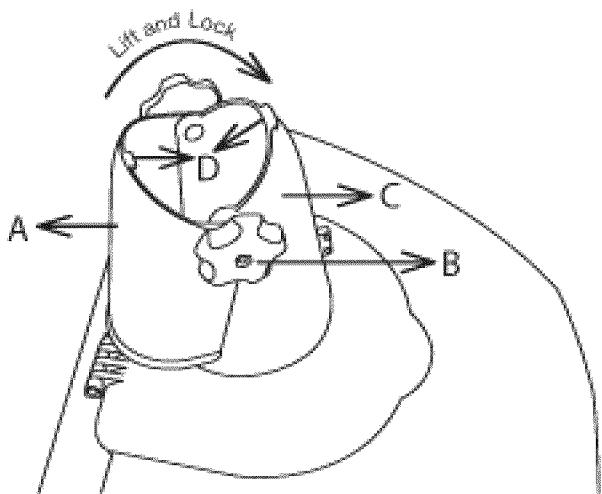

Figure 10
- Lift the chute deflector so that it snaps and locks securely onto the discharge chute (Figs. 10 and 11).